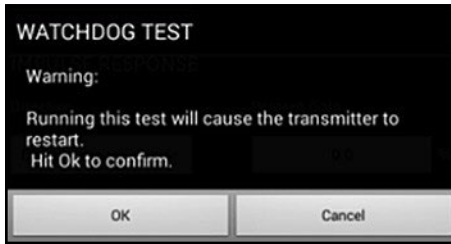

Figure 130: Watchdog Test Warning
2. A properly functioning PT900 restarts if the Watchdog Test is run, and a warning message similar to Figure 130 below is displayed.